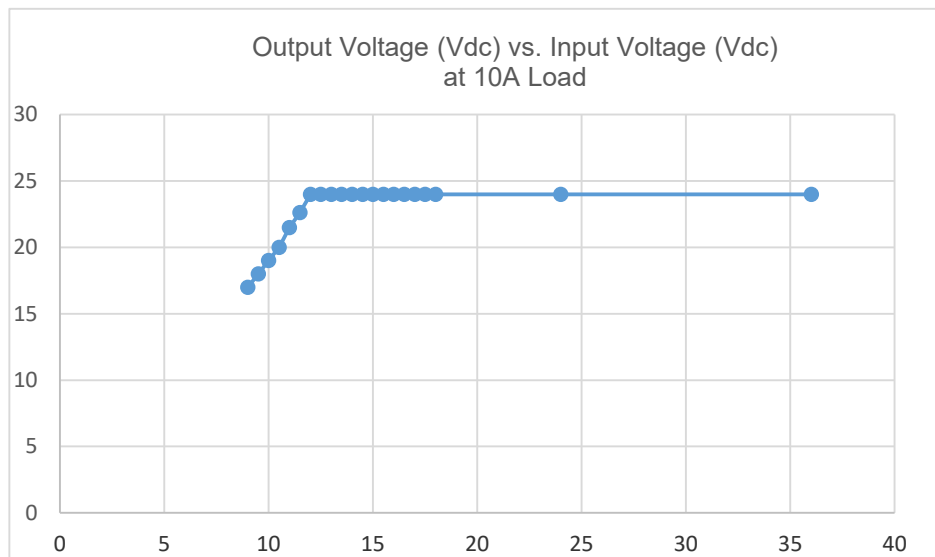

Figure 1.0 Output Voltage vs. Input Voltage at Full Load
- Operates from 9Vdc-36Vdc (Refer to Figure 1.0.)